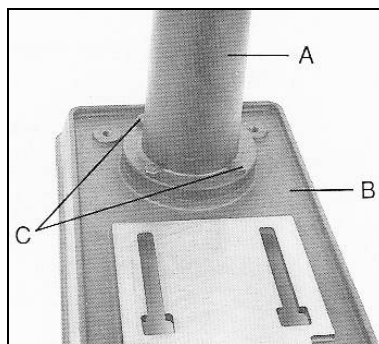

Fig 1
Attach the column assembly (A, Fig 1) to the base (B) with four hex cap bolts (C).